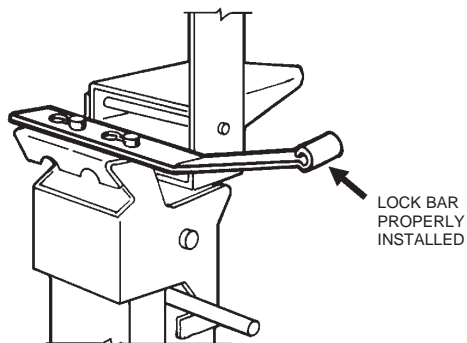
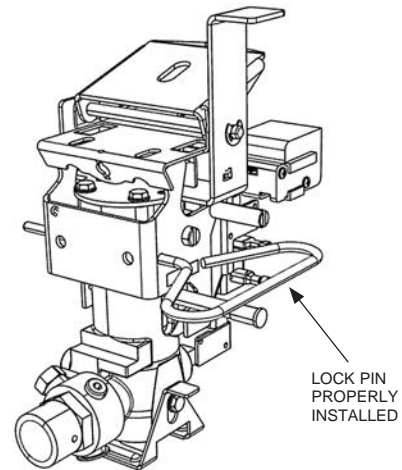

FIGURE 8-9
FIGURE 8-10
- ▶ 2. Insert the lock bar (Part No. 14985) or lock pin (Part No. 438031) on the cocked regulated release mechanism. See Figure 8-9 or Figure 8-10.